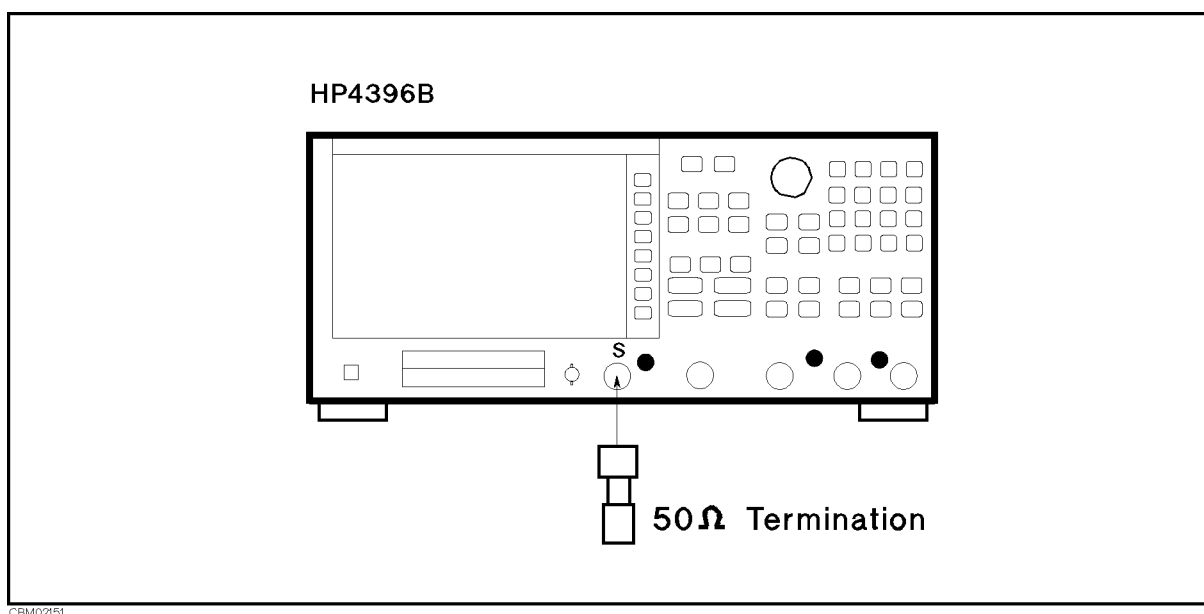

Figure 2-19. Average Noise Level Test Setup
1. Connect the test equipment as shown in Figure 2-19.